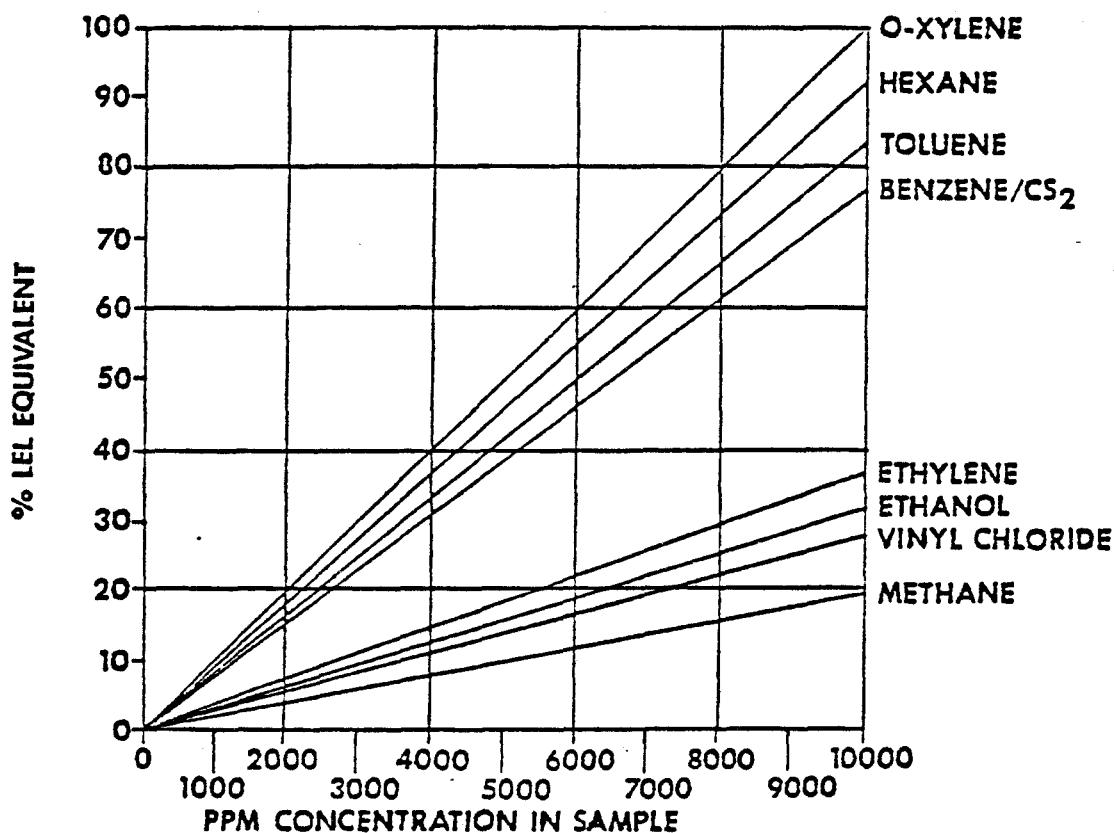

Figure 3-2. Conversion Curves Showing Relationship of PPM Concentrations of Various Gases to Percent L.E.L.Approximate Equivalents.
2. On 0-to-10,000 "PPM CONCENTRATION IN SAMPLE" horizontal scale at bottom of % L.E.L. Conversion Chart, Figure 3-2, locate position left-to-right representing ppm reading.